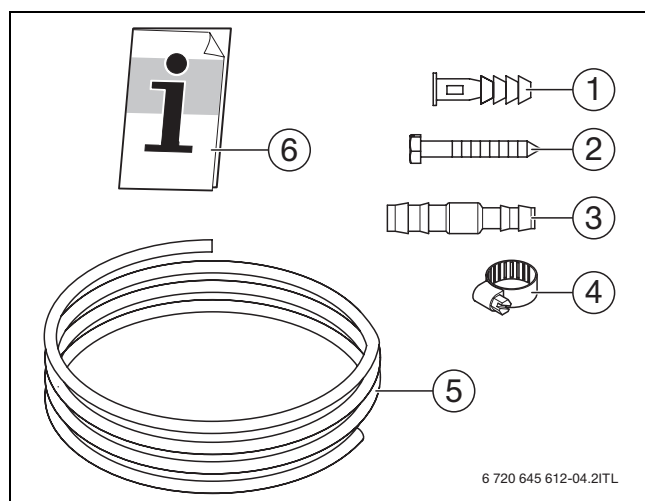

Fig. 1 Pièces fournies
- Accessoires fournis (→ fig. 1)